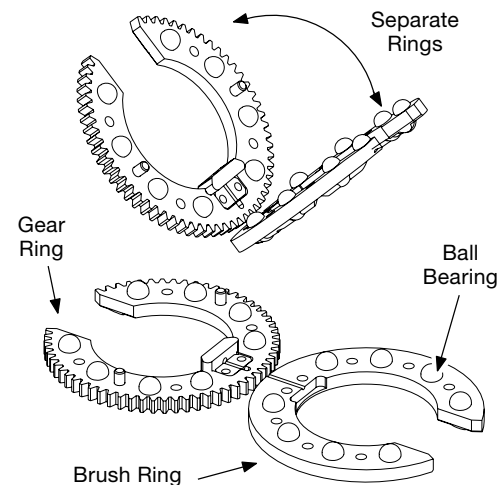

Figure 36 Separating the Gear Ring from the Brush Ring
3. Completely separate the gear ring from the brush ring as shown in Figure 36. Lay the rings flat on the work surface.